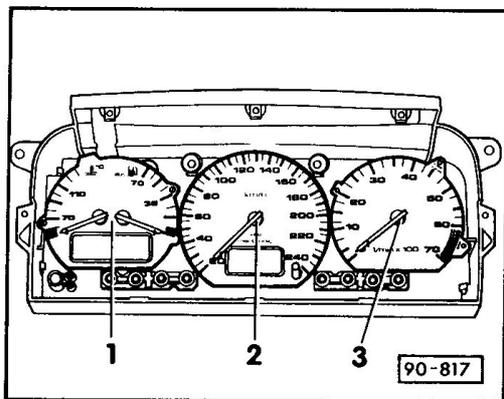

FIG. 2 DÉPOSE ET REPOSE DES INSTRUMENTS
- ♦ DÉPOSE ET REPOSE DES INSTRUMENTS ==> FIG. 2